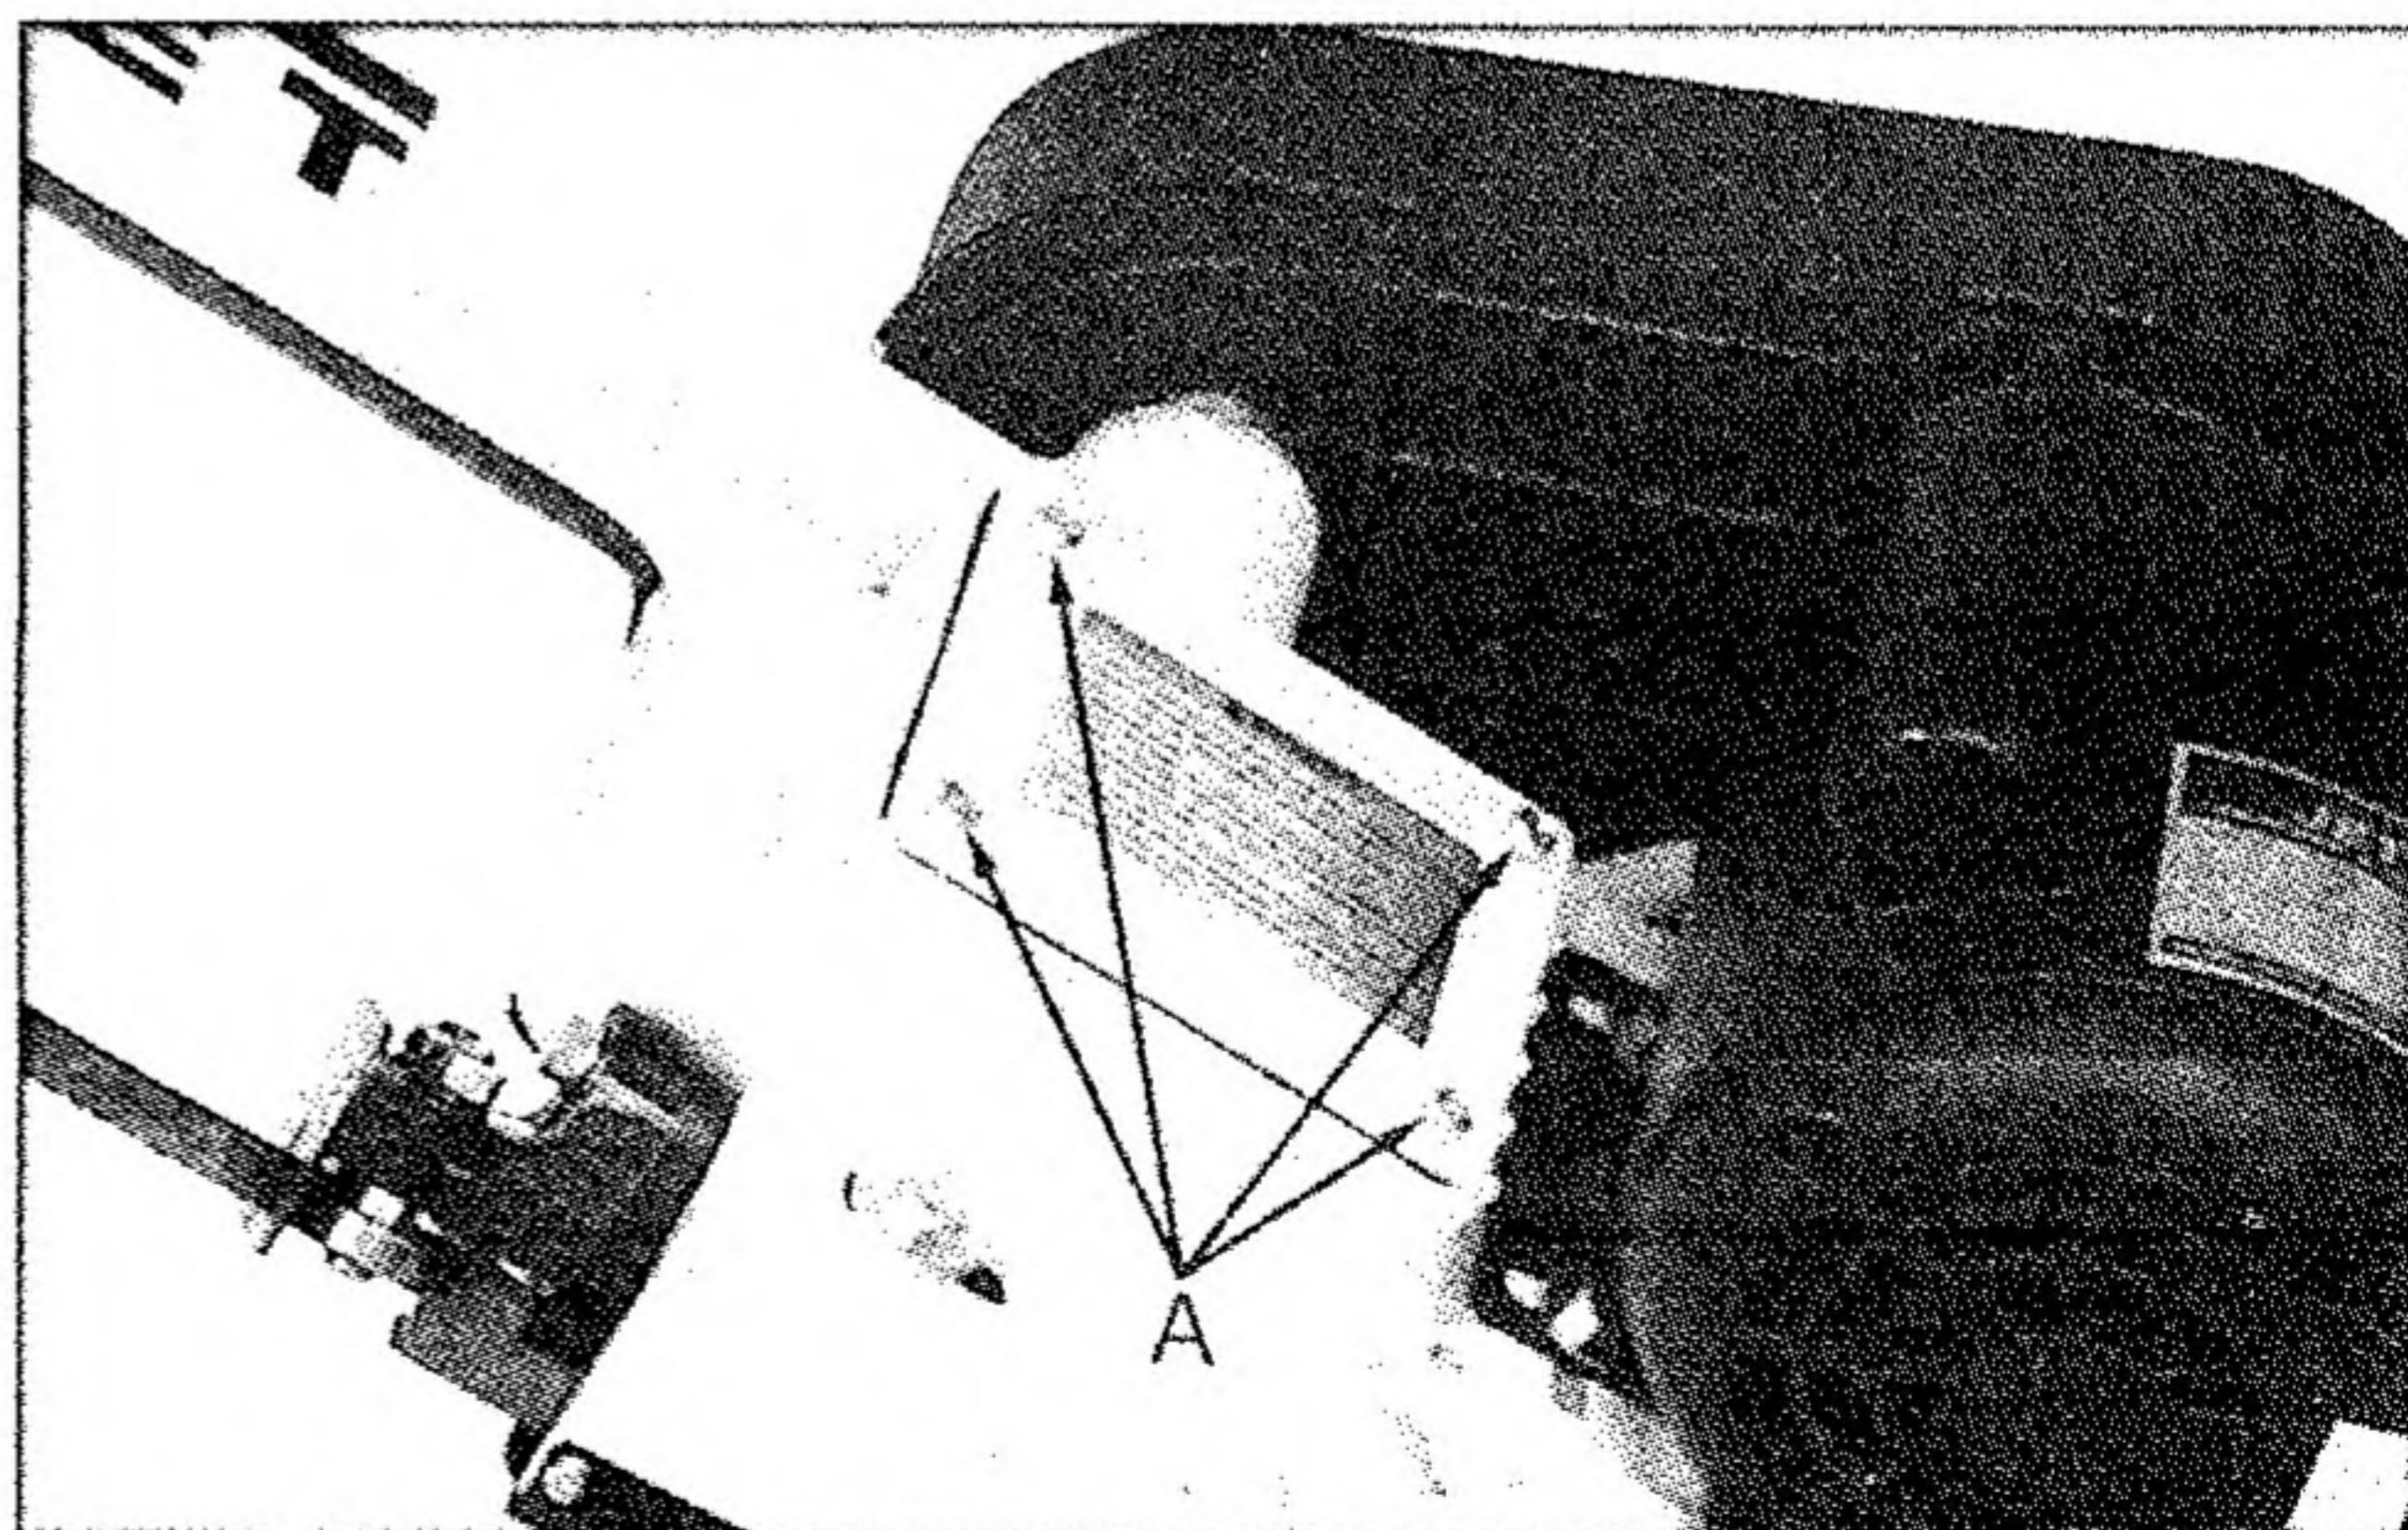

Fig. 18
3. Remove screws (A, Fig. 18) from the gear box and remove cover plate and gasket.